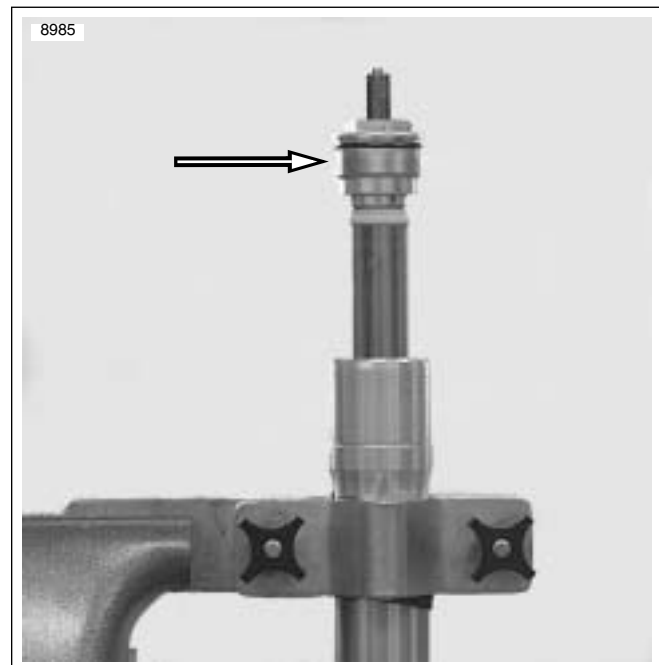

Figure 2-69. Removing Fork Cap From Outer Tube
5. See Figure 2-69. Remove fork cap from outer tube.